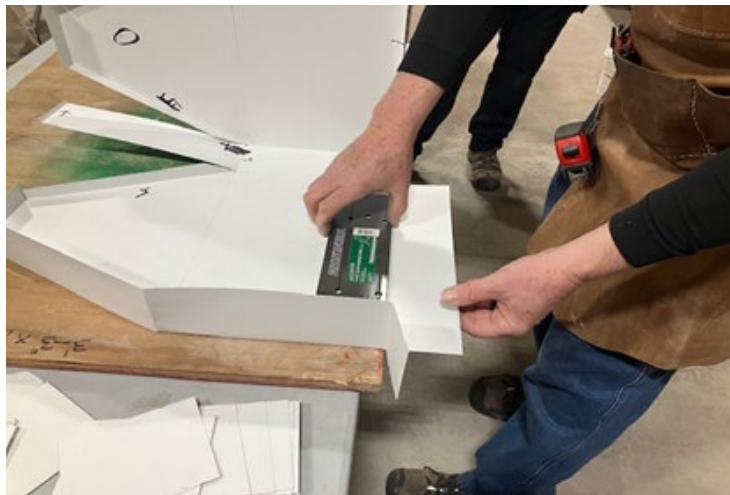

Figure C-10. Bend Plenum Edges to Form a Box.
1. Using the proper length straight edge, bend the plenum along the scribed lines to form a box (see Figure C-10).